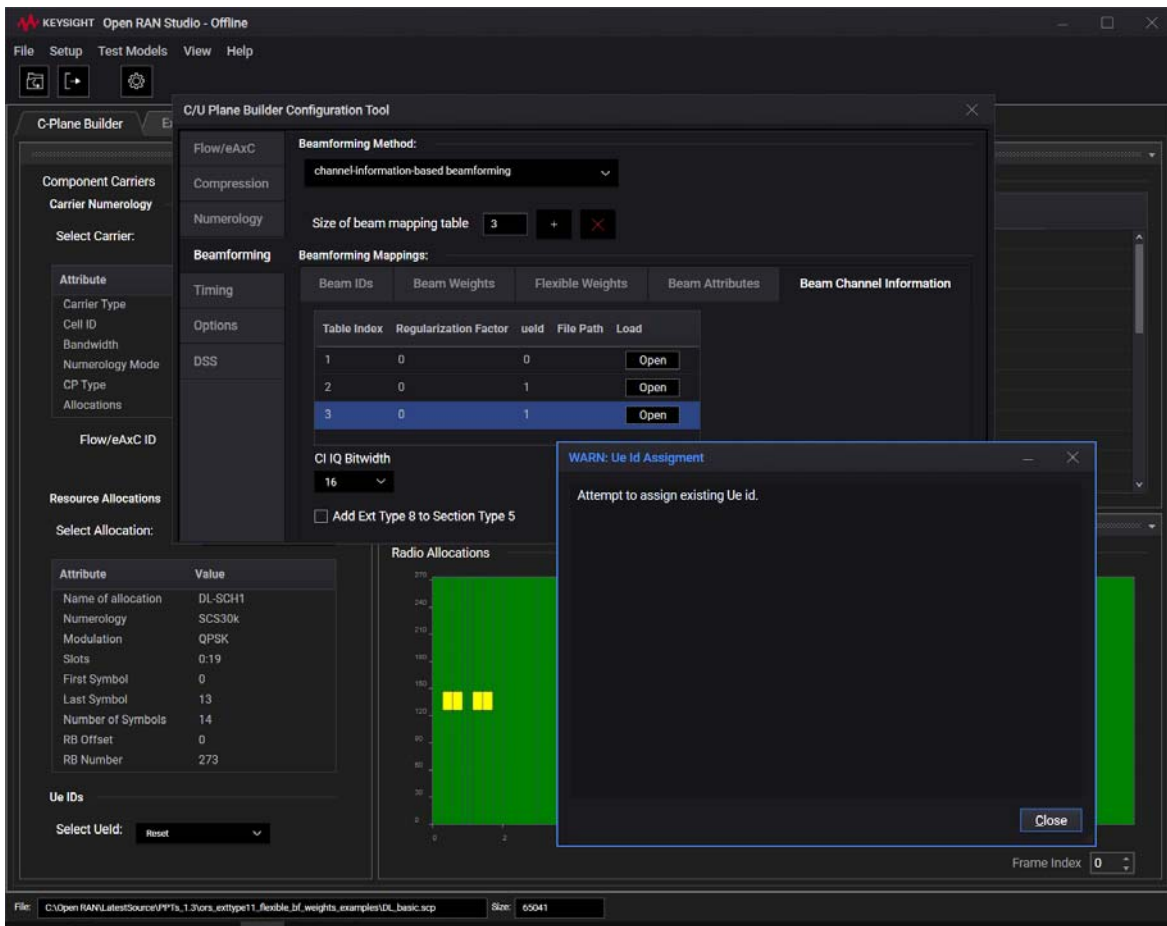

Figure 292 Warning prompt when existing Ue ID value is entered
- c Similarly, entering an existing Ue Id value in another row is forbidden in the C/U Plane Builder Configuration Tool. If you attempt to do so, a warning is prompted, as shown in Figure 292, and the Ue ID value reverts to the previous value, when you close the warning dialog box.